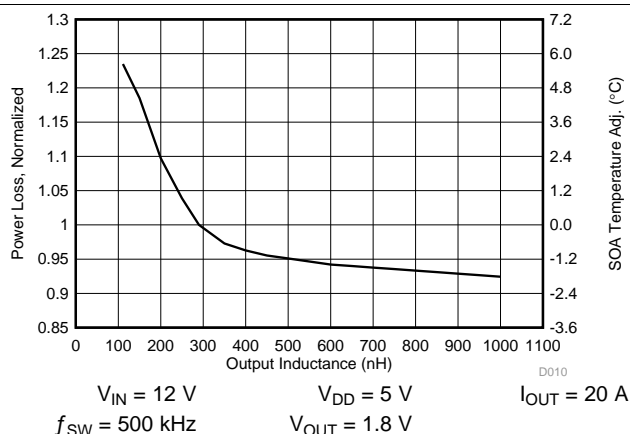

Figure 12. Normalized Power Loss vs Output Inductance
- Normalized Power Loss for output inductor ≈ 1.10 (Figure 12)
- SOA adjustment for output inductor $\approx 2.3^\circ\text{C}$ (Figure 12)